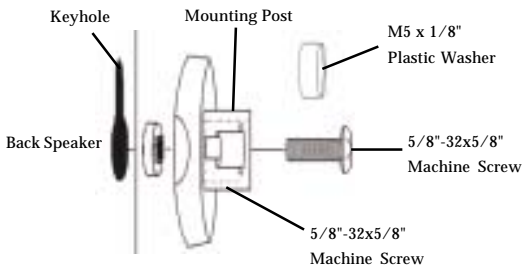

Figure 4
2. Loosely pre-assemble the mounting post with the 5/8"-32 x 5/8" machine screw and key hole nut, see **Figure 4** below. Be sure the key hole nut is installed with the knurled (rough) edge toward the host.
4. Put tension on the assembly by gently pulling back on the speaker mount post while tightening the 5/8"-32 x 5/8" machine screw, see **Figure 4** on page 5.
6. If the post does not tighten securely against the housing, it will be necessary to use the M5 x 1/8" plastic washer as a spacer under the head of the 5/8"-32 x 5/8" machine screw, see **Figure 4** on page 5.